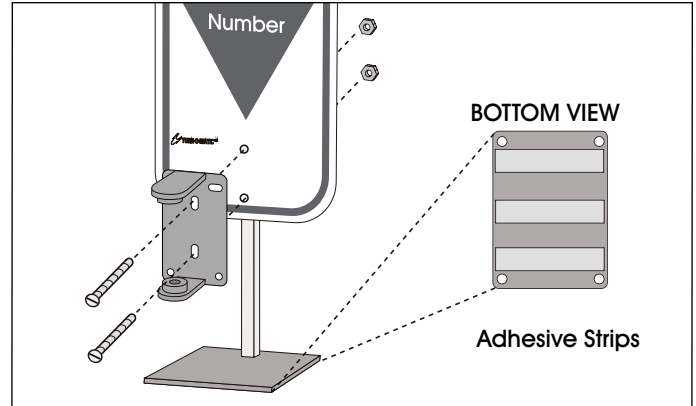

Figure 4
2. Align holes in sign and mounting bracket (longer holder on top) with holes in post. Push two large slotted bolts through bracket and sign and secure with nuts. (See Figure 4)